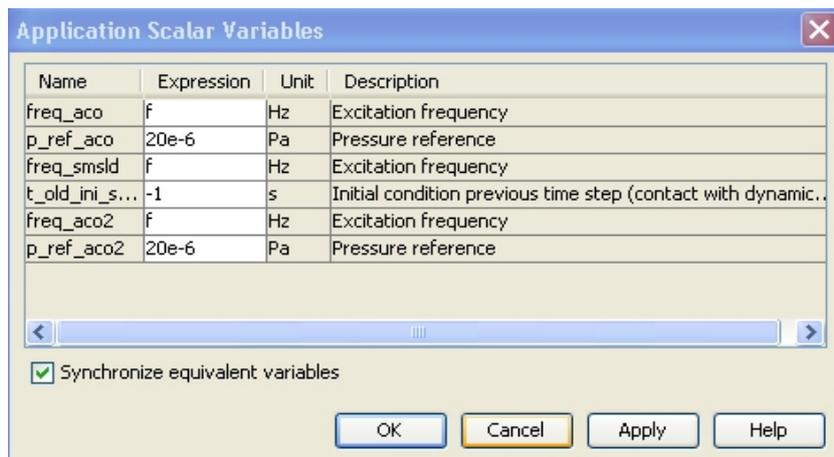

Figure 4: Model Navigator.
- Click the COMSOL menu Physics > Scalar Variables, just change the frequency in the Application Scalar Variables window as Fig. 4.